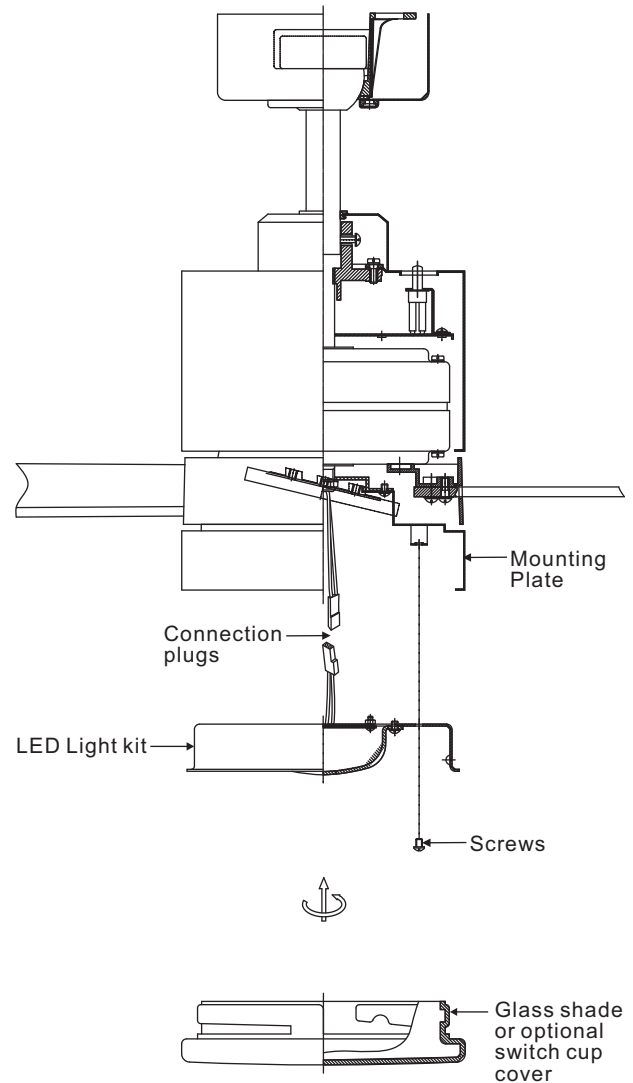

Figure 16
Step 1. Remove the 1 of 3 screws from the posts of the mounting plate and keep it for future use. Loosen the other 2 screws. (Do not remove) (Fig. 16)
Step 3. Place the key holes in the LED light kit over the two screws previously loosened from the mounting plate. Turn the LED light kit until the LED light kit locks in place at the narrow section of the key holes. (Fig. 16)
Step 4. Securely tighten the two light kit mounting screws previously loosened and the one previously removed. (Fig. 16)
Step 5. Raise glass shade up against the LED light kit, and secure it to fan by turning glass clockwise until snug. DO NOT OVERTIGHTEN. (Fig. 16)